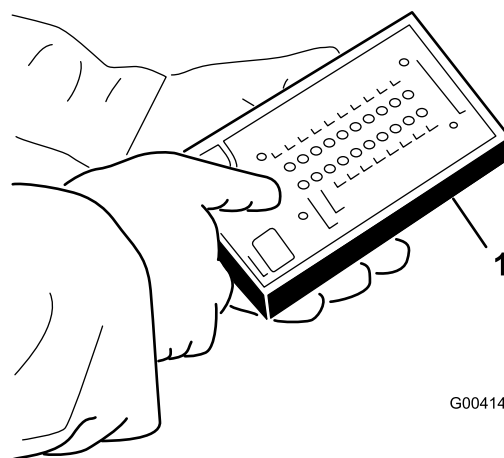

Figure 46
5. Connect the Diagnostic ACE display connector to the harness connector (Figure 46).